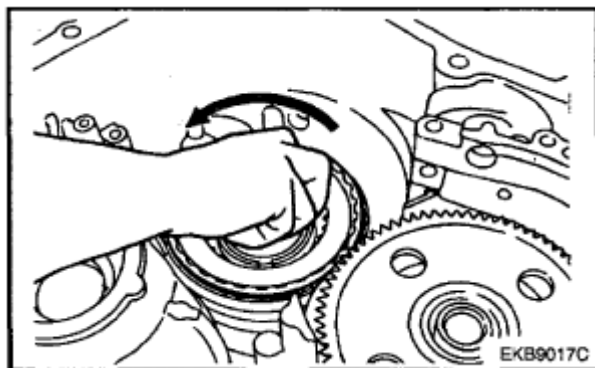

Fig. 117: Checking Direct Clutch Rotation
64. Check the direct clutch to rotate as shown in **Fig. 117** (F5A51 Model).